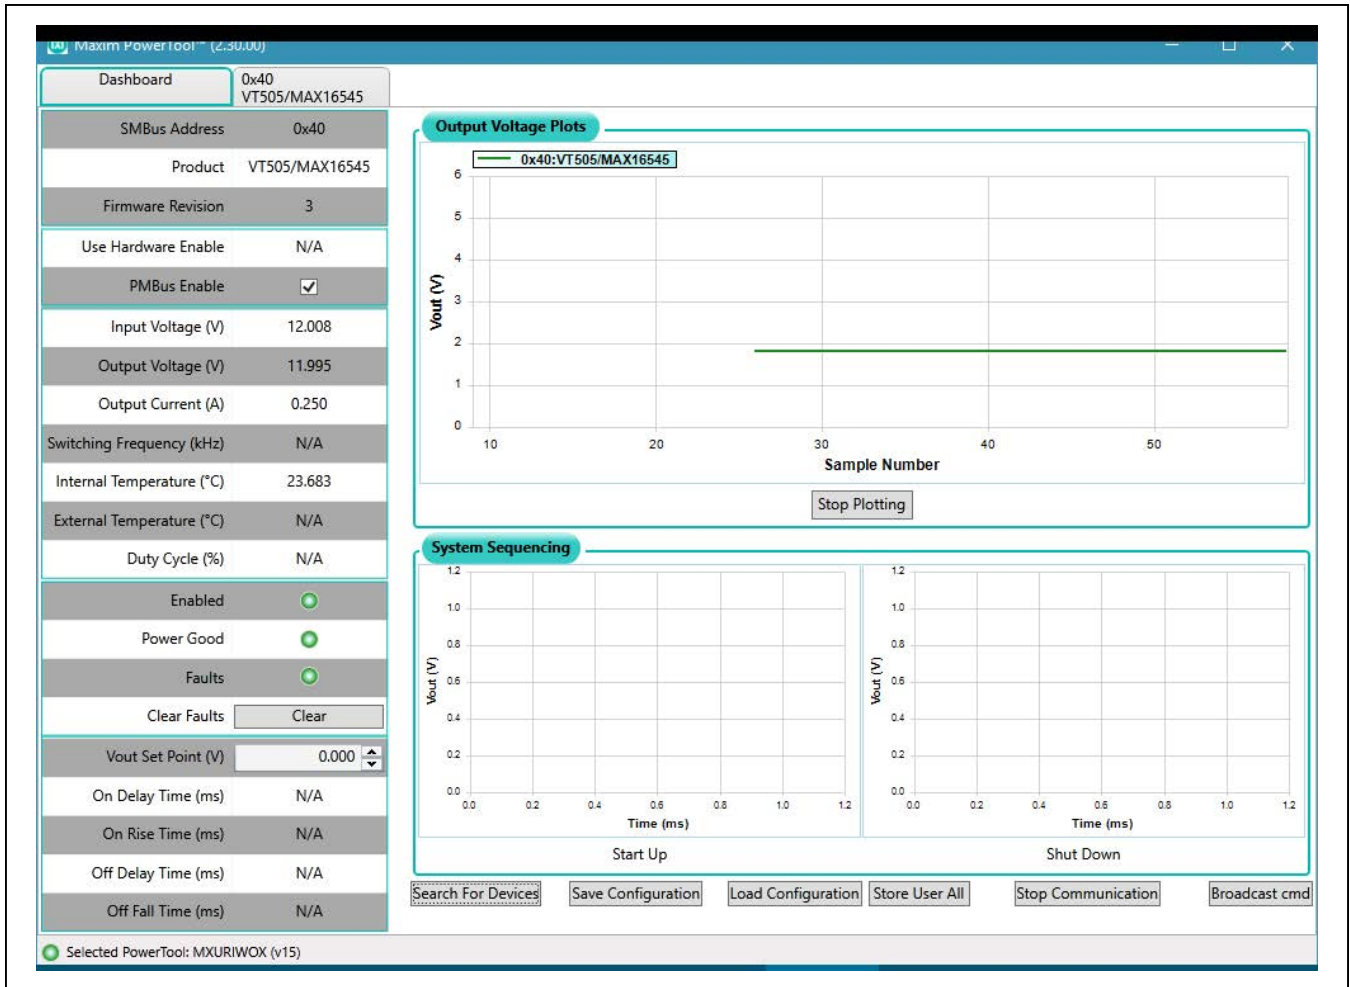

Figure 2. PowerTool GUI connected to an enabled MAX16545B/MAX16545C device
- 11) Switch on S2 to enable the EV kit output. Check that the toggle of S2 illuminates green. The GUI should not show that the output is enabled, as shown in Figure 2.